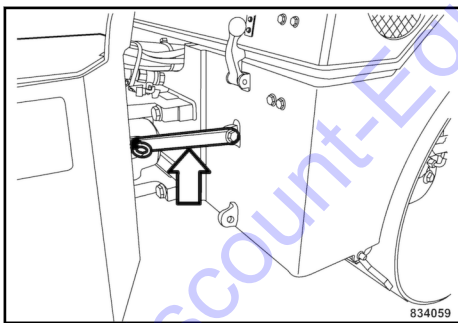

Fig. 128
3. Engage the articulation lock ↪ Fig. 128.